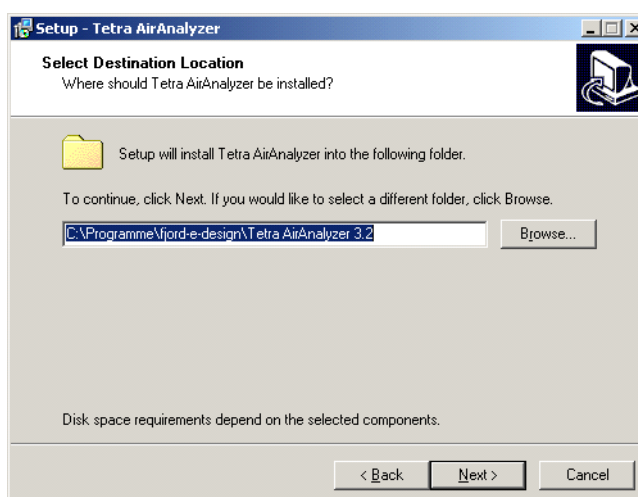

Figure 4 Selecting the installation folder for the software
- 5 Read the install information carefully and click the **Next** button. The installation routine will start and the Select Destination Location dialog box will be displayed as shown in Figure 4.